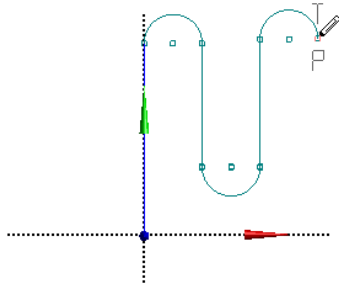

Figure 3-70 Specifying the start point of the line
29. Move the cursor close to end point of arc 3; the symbols of Tangent constraint (T) and the Point Coincident constraint (P) are displayed attached to the cursor.
30. Select the end point of arc 3 to specify it as the start point of line 4, as shown in Figure 3-70. Also, you are prompted to specify the end point of line 4.